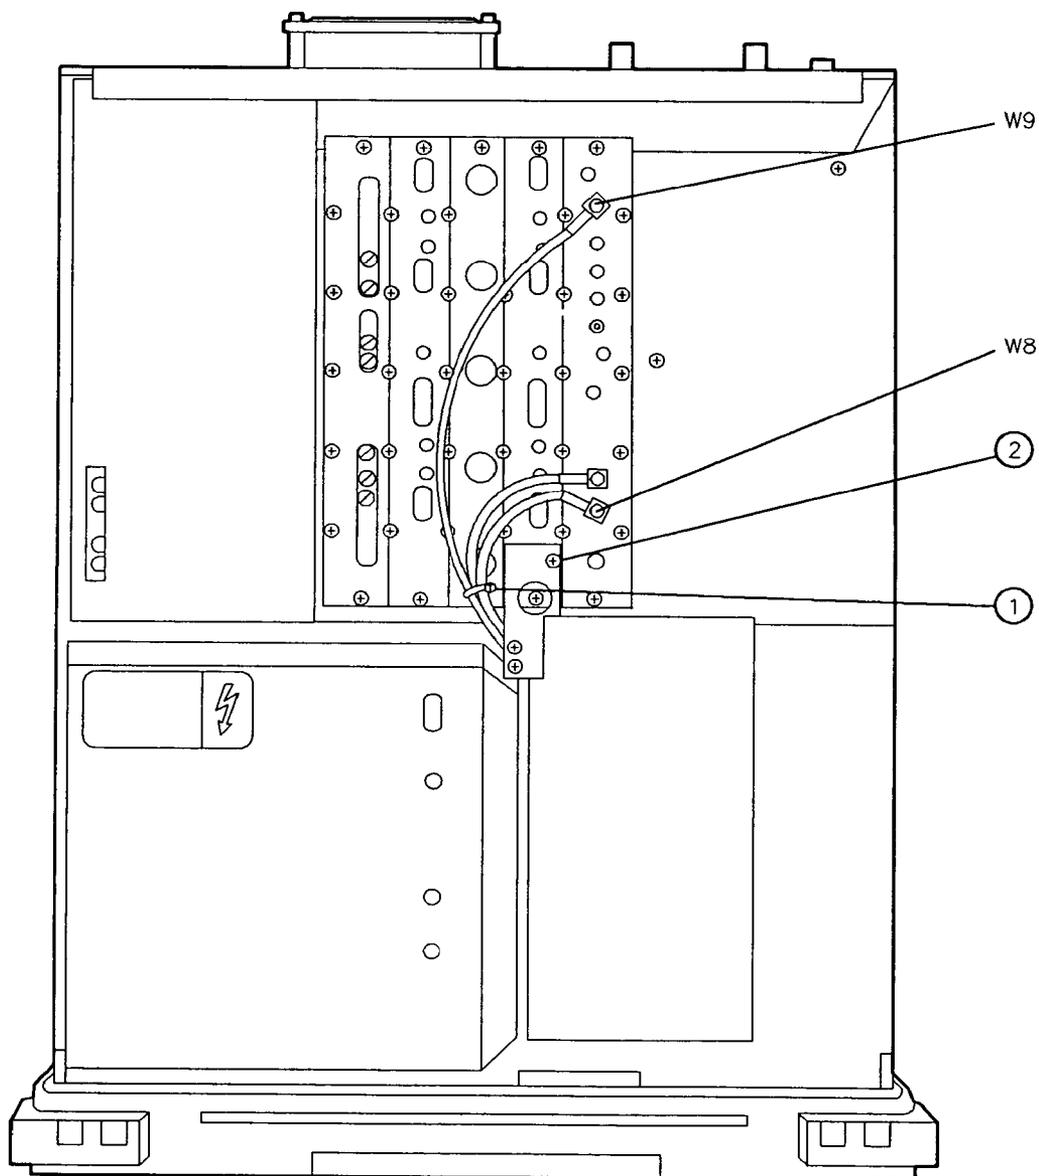

Figure 3-21. RF section Cables and Screw
22. Disconnect the cables listed below from the IF section's A9 Third Converter assembly. See Figure 3-21. Use a piece of tape to label the cables so that you can properly reconnect them during reassembly.
- 23. Use a pair of wire cutters to remove the cable tie (1) that joins the cables.
- 24. Remove the screw (2) securing the RF section to the IF section.